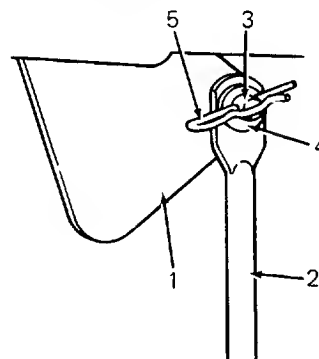

Figure 39
7. Remove the four lift links from the lift carriage lift pins as follows: Lift the deck slightly by hand and remove the hairpin cotter and flat washer which secure each lift link to the lift pins. (Refer to Figures 39 and 40.)